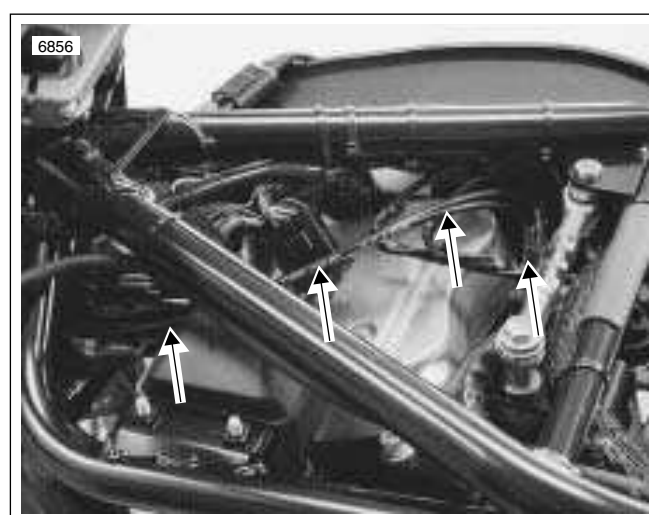

Figure 2-95. Throttle Body Routing
- c. See Figure 2-95. Route cables below the fuel tank and continue downward.